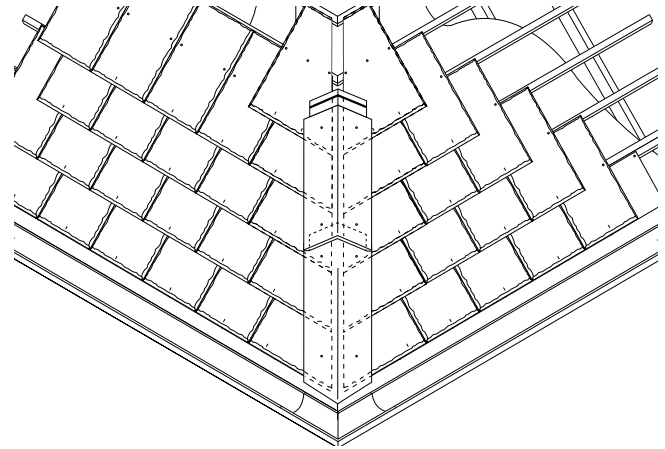

Fig. 23 - Fibre cement duo pitch ridge units used as hip capping
- 5 Fix subsequent units up the hip, sealing the joints with 6mm diameter butyl strip [Fig. 23].